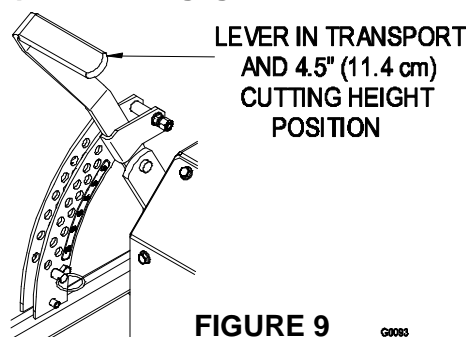

FIGURE 9
- c) Raise the deck lever to the transport position (also the 4.5” (11.4 cm) cutting height position). See Figure 9.